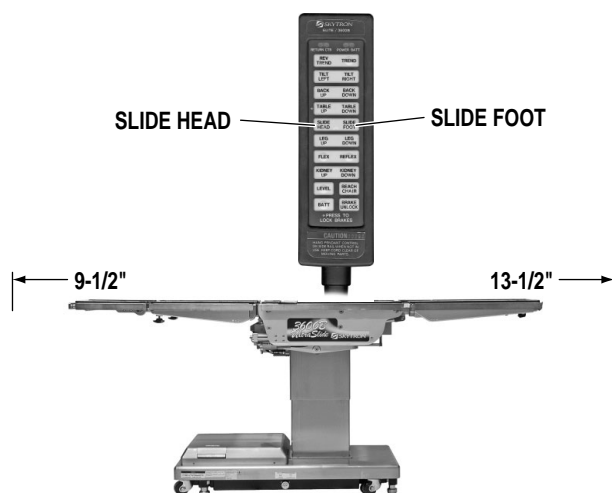

Figure 2-10. Top Slide
**f. Top Slide.** To move the table top toward the head end, press the SLIDE HEAD button. From center position, the top will slide up to 9-1/2". See figure 2-10.